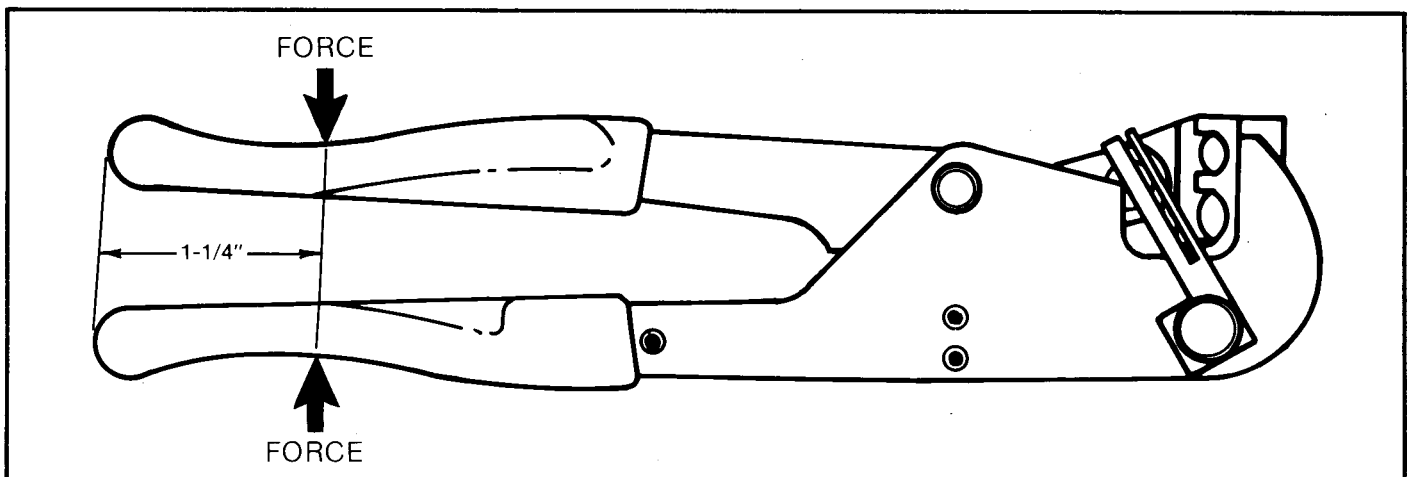

FIGURE 2
2. Gradually apply a force 1-1/4" from end of handles until SHURE STAKE[®] mechanism releases (see Figure 2).
2. Squeeze the handles until the lower die butts against the upper die (5-10 pound force on handle as shown in Figure 2).